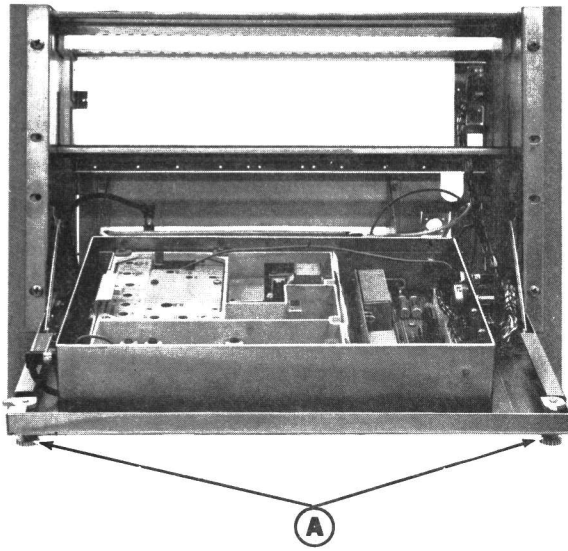

Figure 2 - Access to Exciter
1. Turn the two latching knobs (A) counterclockwise to unlatch the Radio Panel Front Door. Refer to Figure 2.